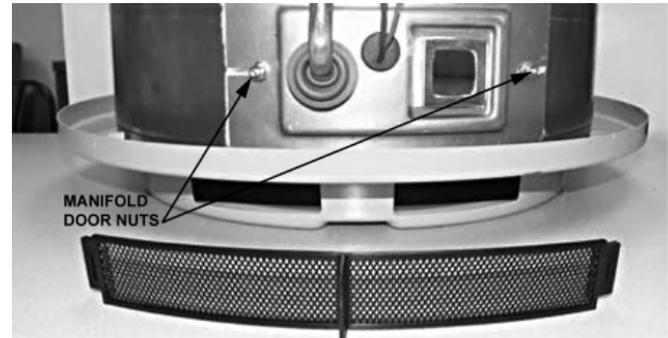

Figure 3
5. Remove the 3/8” manifold door nuts, holding the inner door and white gasket in place, see Figure 3.